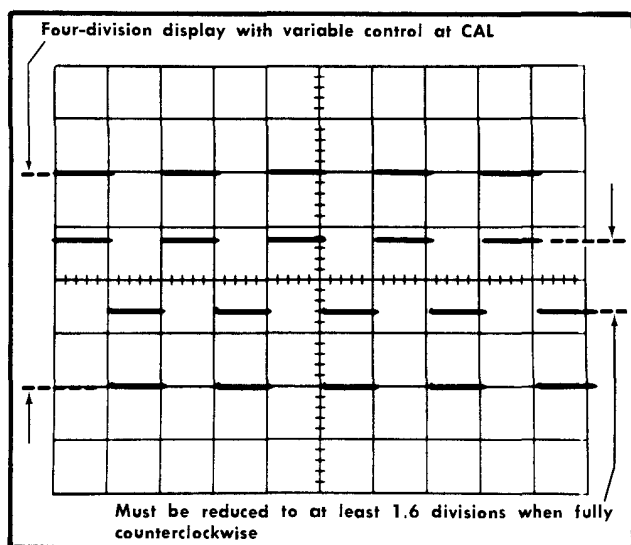

Fig. 6-19. Typical CRT display when checking VARIABLE VOLTS/DIV control range (double exposure).
- CHECK—Turn the Channel 2 VARIABLE VOLTS/DIV control fully counterclockwise. Display should be reduced to 1.6 divisions or less (representing a control attenuation range of 2.5:1 or greater; see Fig. 6-19). Channel 2 UNCAL light must be on when VARIABLE control is not in CAL position.
- CHECK—Turn the Channel 1 VARIABLE VOLTS/DIV control fully counterclockwise. Display should be reduced to 1.6 divisions or less (control range of 2.5:1 or greater; see Fig. 6-19). Channel 1 UNCAL light must be on when VARIABLE control is not in CAL position.